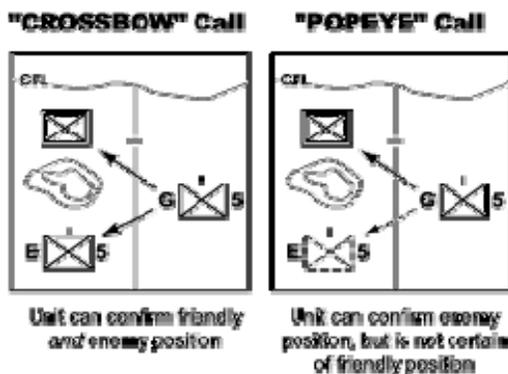

Figure 4-1. “Crossbow” and “Popeye.”
- a. Direct fire OR indirect fire within the Battalion. *See Figure 4-1.*
- (1) Company calls adjacent company on Bn Tac-I or appropriate COF NET and requests permission to engage the given grid across the boundary: